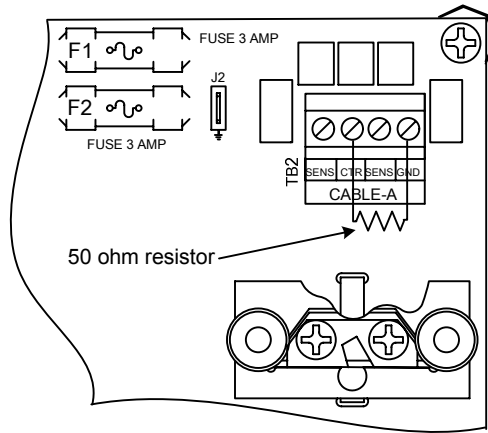

Figure 3.8 – LU II Fuses and Termination Resistor
For sites with five (5) or more PM II's, ground loops are a possibility. To eliminate this concern the LU II can become isolated by removing fuses F1 and F2 as shown in Figure 3.8. It is recommended that for sites with more than five (5) PM II's, that one of the LU II's have the fuses removed to become an isolating LU II.
If a box with a tamper switch is required, the LU II should be used. If cable will only be connected to one side of the LU II, the other side needs to be terminated with a 50 ohm, ¼ watt resistor from the Center Conductor to the Ground terminals as shown in Figure 3.8. If the cover of the LU II is removed, the tamper switch(s) will activate and the cable on one or both sides will indicate a **“Cable Fault Alarm”**.